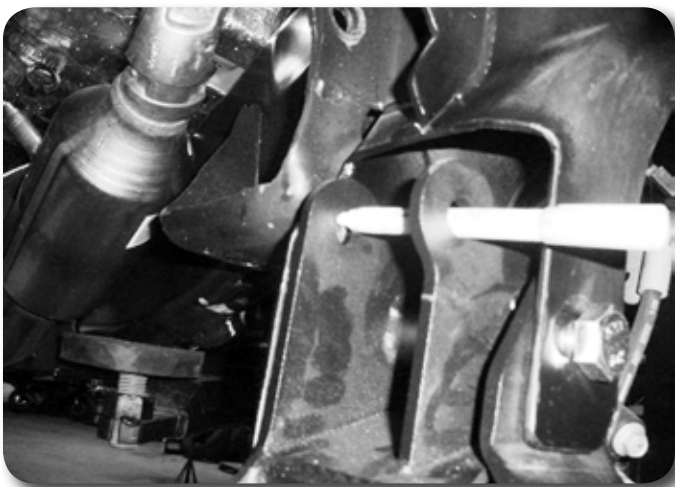

Figure 18
30. With the crossmember installed mark the differential hole on the factory control arm bracket. Remove the crossmember and drill a 5/8" hole at the mark, for easiest access drill the hole from front to back. Figure 18